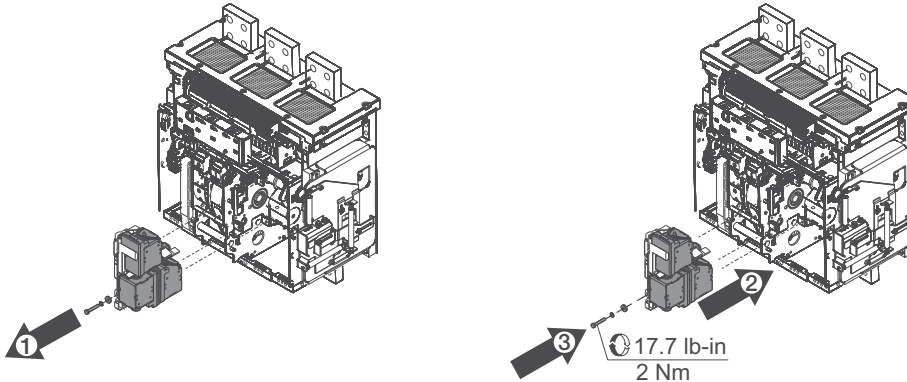

Fig. 29
- Inspect internal accessories (i.e. Shunt trip, Shunt Close & UV relay) for absence of excessive wear, overheating and breakage, Fig. 29.